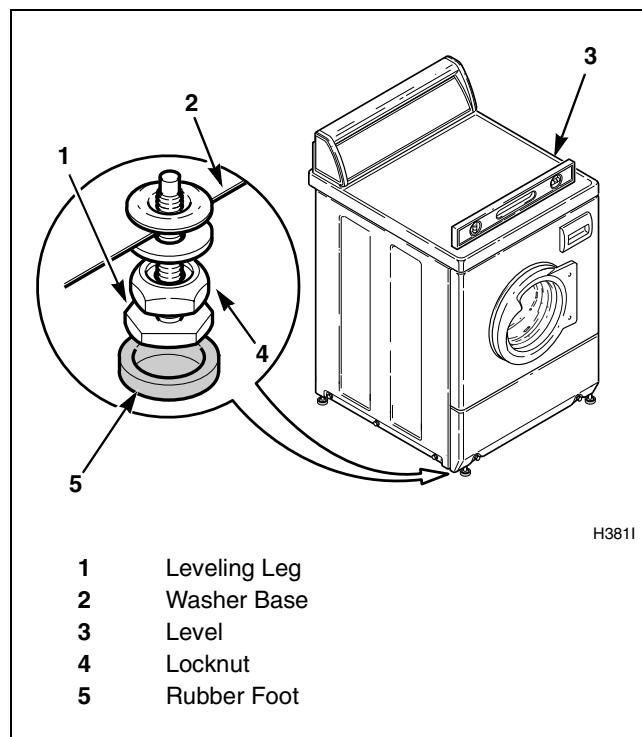

Figure 10
**NOTE: Level must rest on raised portion of top panel. Refer to Figure 10.**